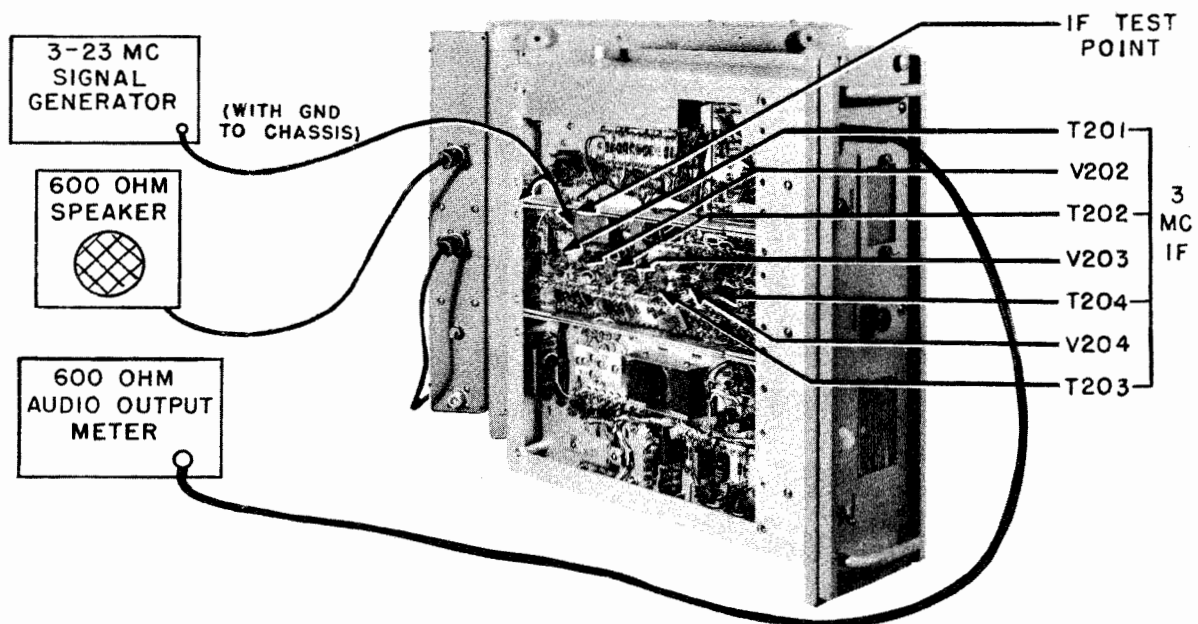

Figure 7-4. Alignment Set-up for 3 MC IF Section
- (1) Align 3 Mc IF stages. (See figure 7-4.)
(1) Prepare the 3 Mc signal generator for use by beating it into the frequency meter to obtain an accurate 3 Mc signal.
(2) Set up the receiver chassis and test equipment, as indicated in figure 7-4 for steps (1) to (8). Proceed with the alignment as outlined in table 7-2.